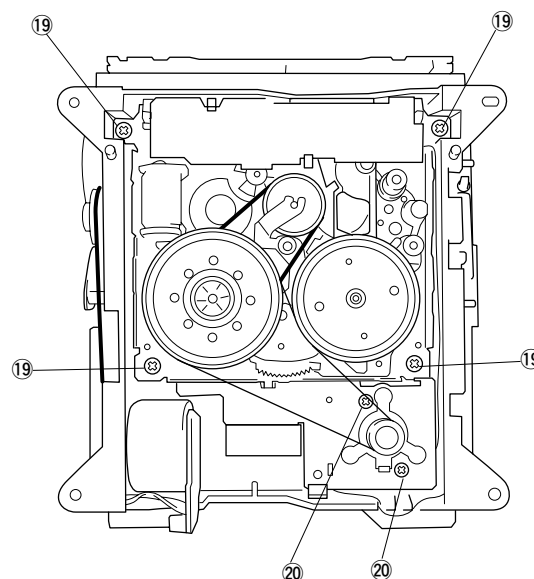

Fig. 14
Remove 4 screws (19) and then pull out the Cassette Mechanism in Fig. 14.
Remove 2 screws (20) in Fig. 14.